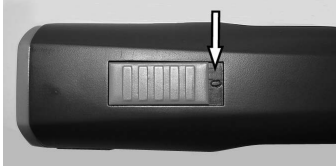

Fig. 4 Switch in OFF-position ("0")
1. Test the contacts of the clipper (1) and the battery (2) for foreign particles and contamination.
2. Assure, that the switch lever of the clipper is in OFF-position ("0") (fig. 4).
1. Move the switch to position "0" (fig.4).
2. Push the battery interlock (2) on both sides inward and pull the battery (1) out of the clipper.
3. Insert charged battery (1) into the shearer (2), until the battery lock is locked in on both sides.